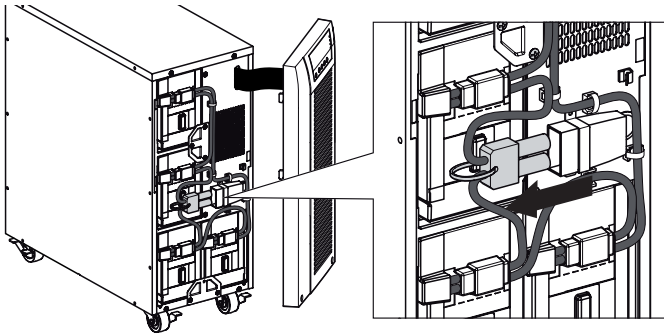

Figure 28. Disconnecting the UPS internal batteries.
If the UPS requires any type of transportation, verify that the UPS is disconnected and turned off and then disconnect the UPS internal battery connector (see figure 28 on page 28).
2. Disconnect the internal battery connector (see figure 28).